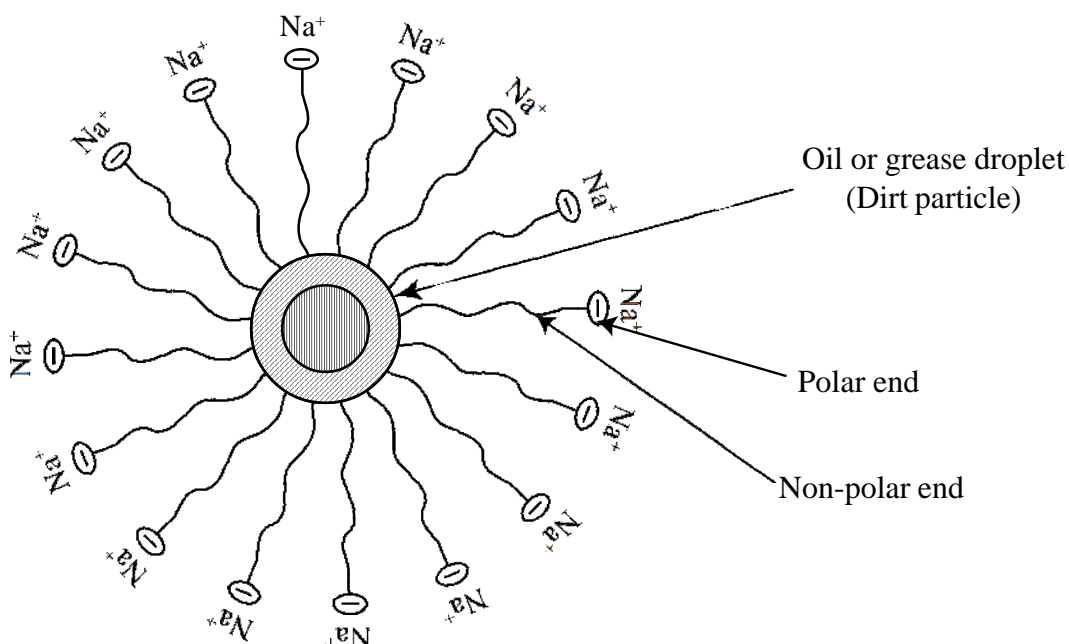

Fig. 24.1 : Cleansing action of soap and detergents
- (ii) **Emulsification** : When dirty cloth is immersed into the mixture of soap and water, the non-polar part of the soap or detergent dissolves in oil or grease and the polar part of the soap or detergent is held by the surrounding water as shown in Fig. 24.1. The grease layer is then dislodged from skin by rubbing or from garment by tumbling and stirring.